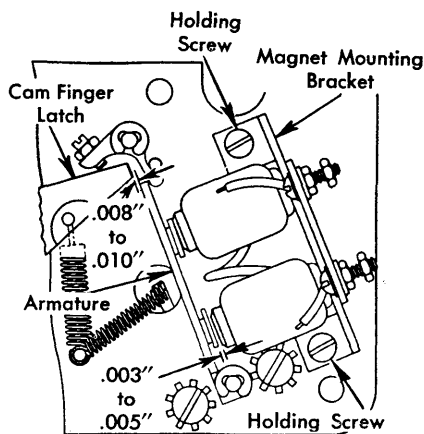

Figure 57. Unlatching Clearance Adjustment
**CAM FINGER UNLATCHING CLEARANCE (FIGURE 57)**